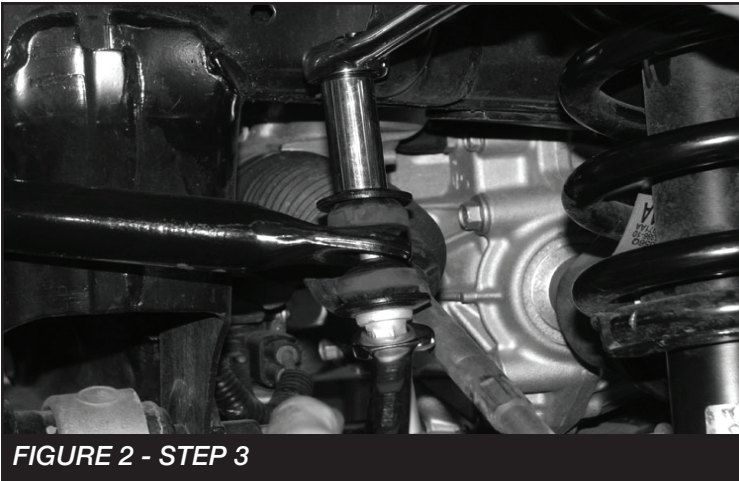

FIGURE 2 - STEP 3
3. Remove nut from upper sway bar end link. Save for re-installation. **SEE FIGURE 2**